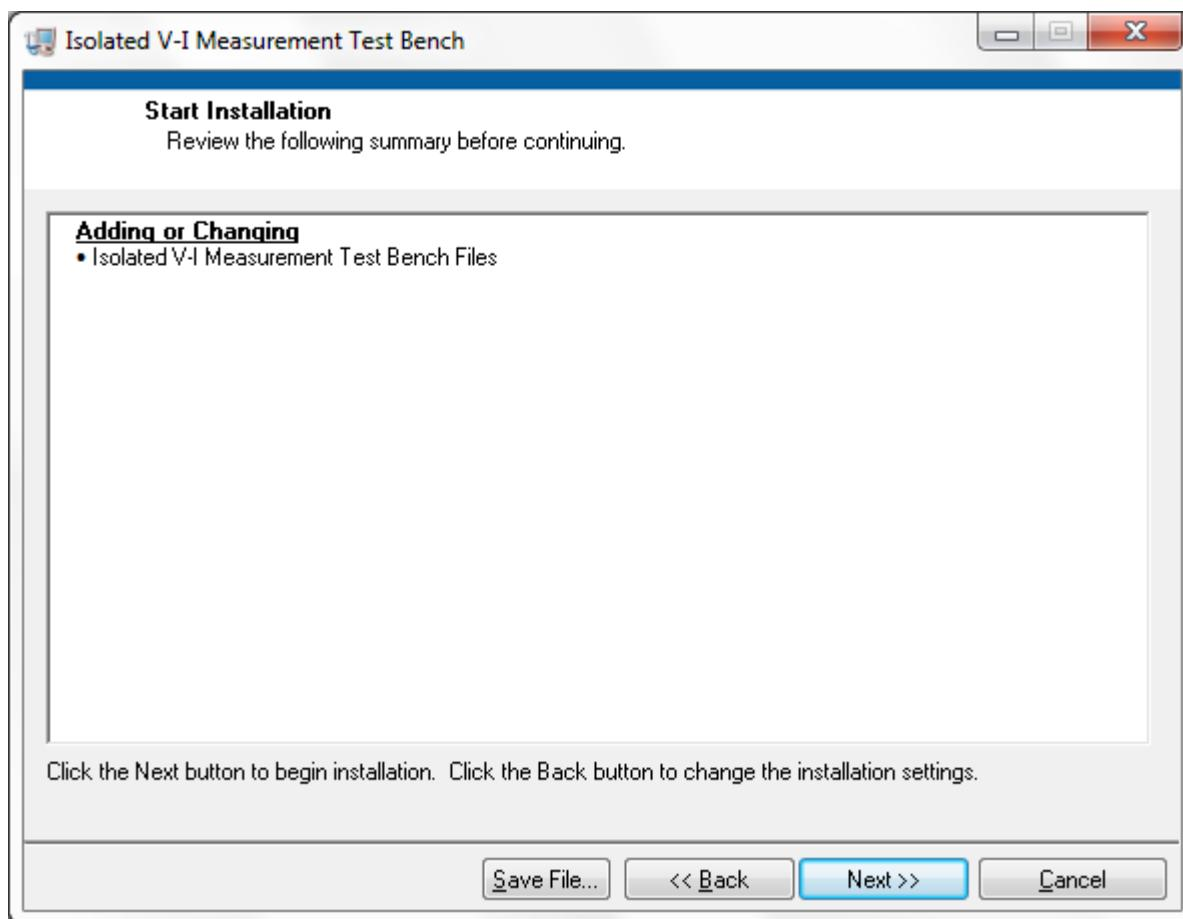

図 42. Files Added or Modified
2. 図 42 shows the list of files that will be added or modified with this installation. Click *Next*.